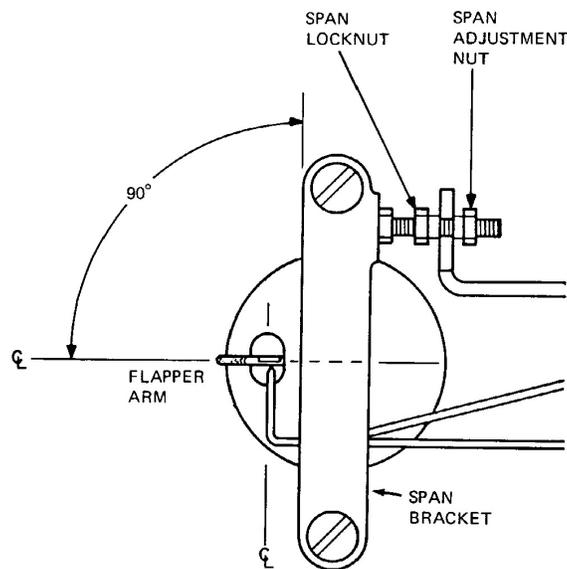

Figure 17.
2. Apply 12 mA (50%) input signal and adjust zero screw to bring flapper arm to horizontal position (at 90° to edge of span bracket, as shown in Figure 17).
3. Loosen span locknut. Turn 5/16-inch span adjustment nut to position nozzle to center of flapper arm, as shown in Figure 17. Tighten span locknut.